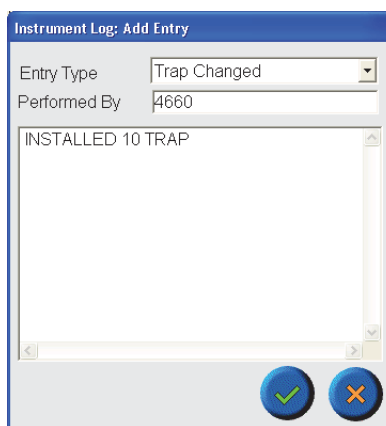

Figure 6.17. Instrument Log: Add Entry dialog box
1. Press **Maint Hist...** to add an instrument log entry. The Instrument Log: Add Entry dialog box appears (Figure 6.17).